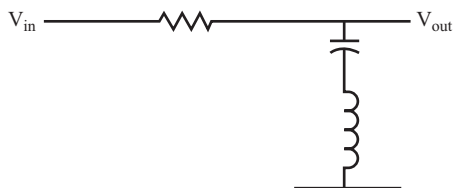
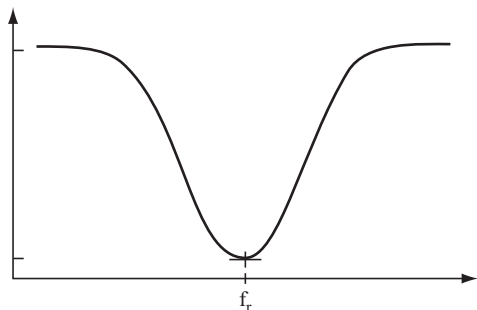
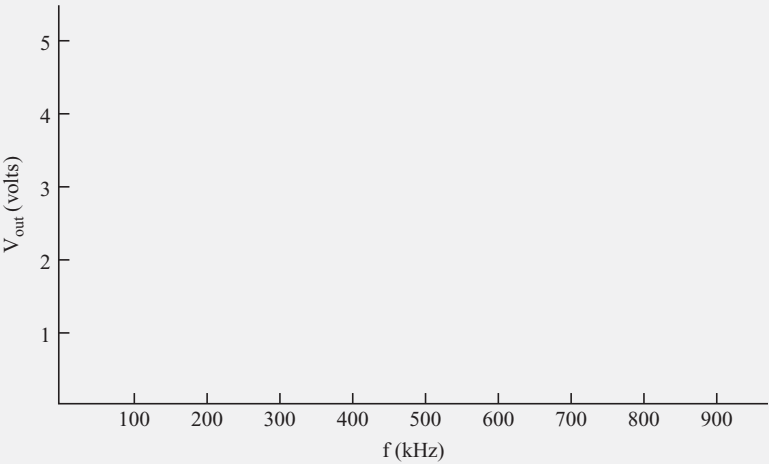

FIGURE 7.5
FIGURE 7.6
FIGURE 7.8
**9** For the RLC circuit shown in Figure 7.5, the output voltage is the voltage drop across the capacitor and inductor.
If  $V_{\text{out}}$  is plotted on a graph against the frequency for the circuit shown in Figure 7.5, the curve looks like that shown in Figure 7.6.
The output voltage drops to its minimum value at the resonant frequency for the circuit, which you can calculate with the formula provided in problem 6. At the resonant frequency, the net reactance of the inductor and capacitor in series is at a minimum. Therefore, there is little voltage drop across the inductor and capacitor, and the output voltage is at its minimum value. A circuit with this type of output (such as the circuit shown in Figure 7.5) is called a *notch filter*, or *band-reject filter*.
8. In the blank graph shown in Figure 7.8, plot  $V_{out}$  vs  $f_{in}$  with the voltage on the vertical axis and the frequency on the X axis. The curve should have the same shape as the curve shown in Figure 7.6.